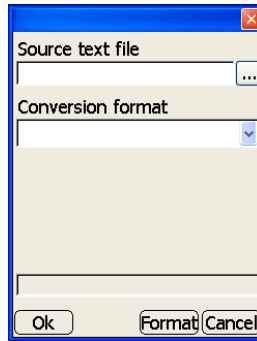

Figure 3-10. Import Dialog Box – Select Source Text File
1. To import a Control Point file, press **Data ▶ Control ▶ Import/Export ▶ From text file**. On the **import** dialog box, press the **browse (“...”)** button to navigate to and select a source text file (Figure 3-10).